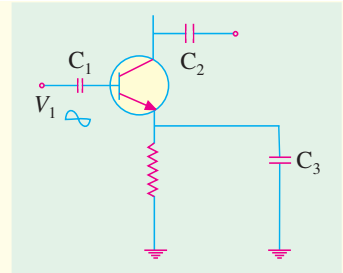

Fig. 60.49
8. Derive the voltage, current and power gain relationships and then find the voltage gain of the single-stage amplifier shown in Fig. 60.49. An *NPN* transistor that has $h_{ie} = 500 \Omega$, h_{re} negligible, $h_{fe} = 150$, and $h_{oe} = 50 \mu S$ is used. Neglect all coupling and stray capacitances.